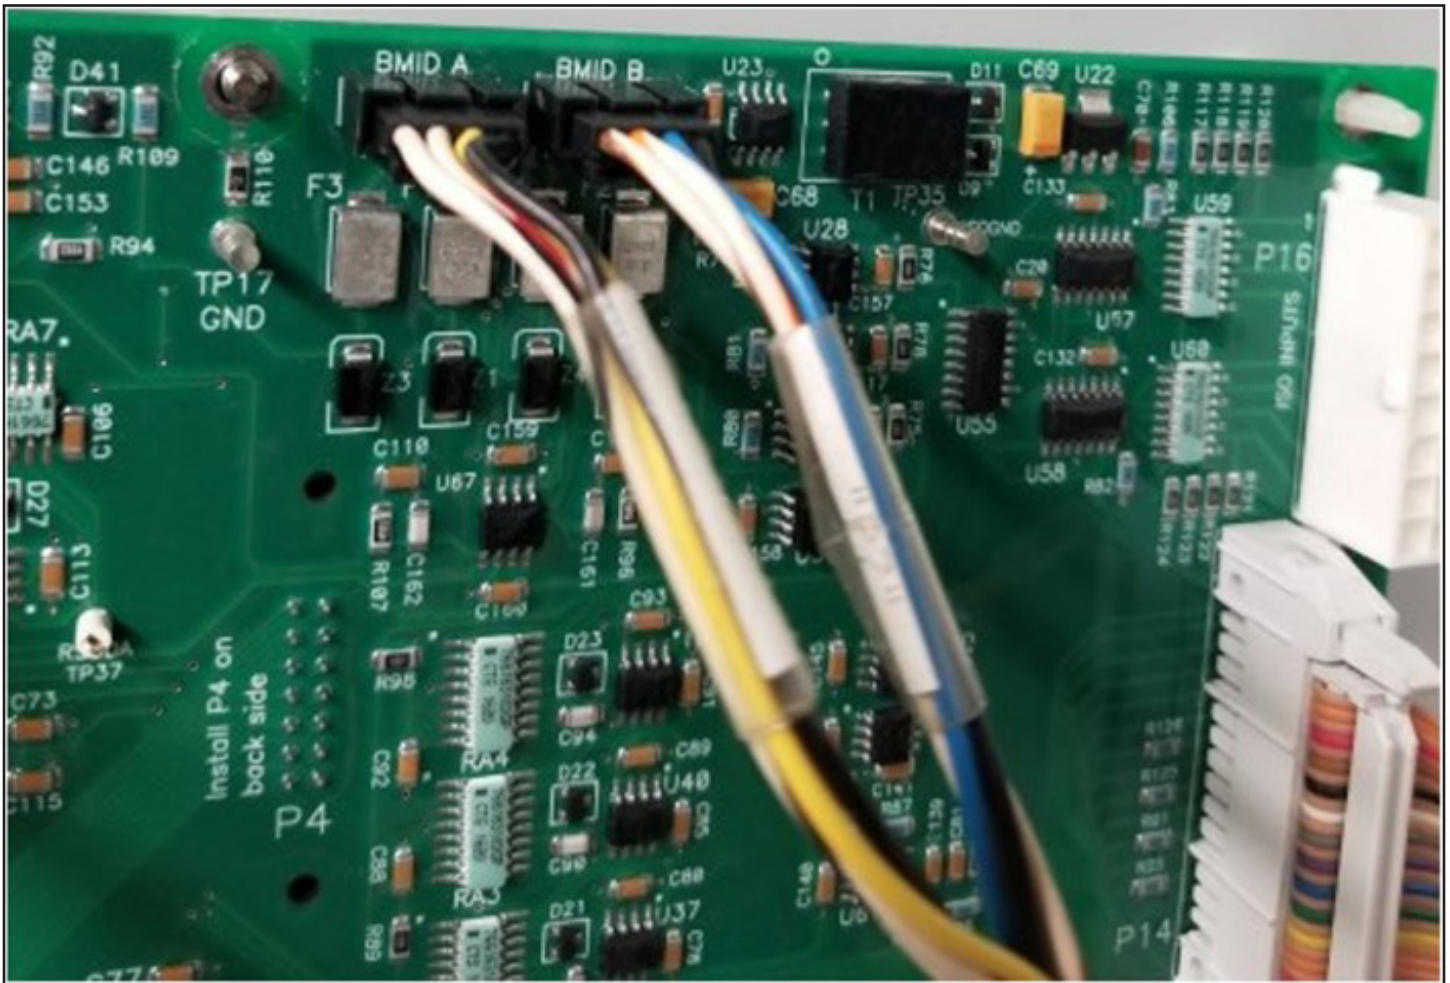

Figure 3 – P6 and P7 Cables Connected to BMID A and BMID B Ports on GSE Control Board 08067
3.3.1 – Remove the P6 and P7 connectors from the BMID A and BMID B ports on the GSE control board 08067 (Figure 3).